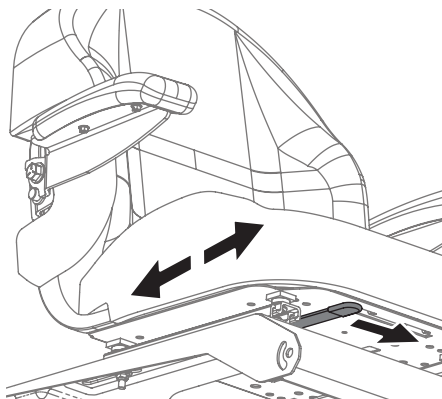

Figure 13
3. Release the adjustment lever. Ensure seat is locked into position before operation (Figure 13).